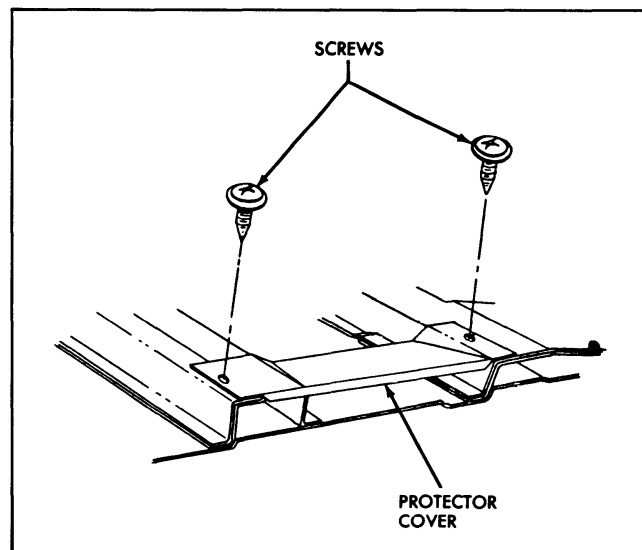

Fig. 18-4 Front Seat Side Protector Cover
2. Remove screws shown in Fig. 18-4 securing cover to floor pan and remove cover.